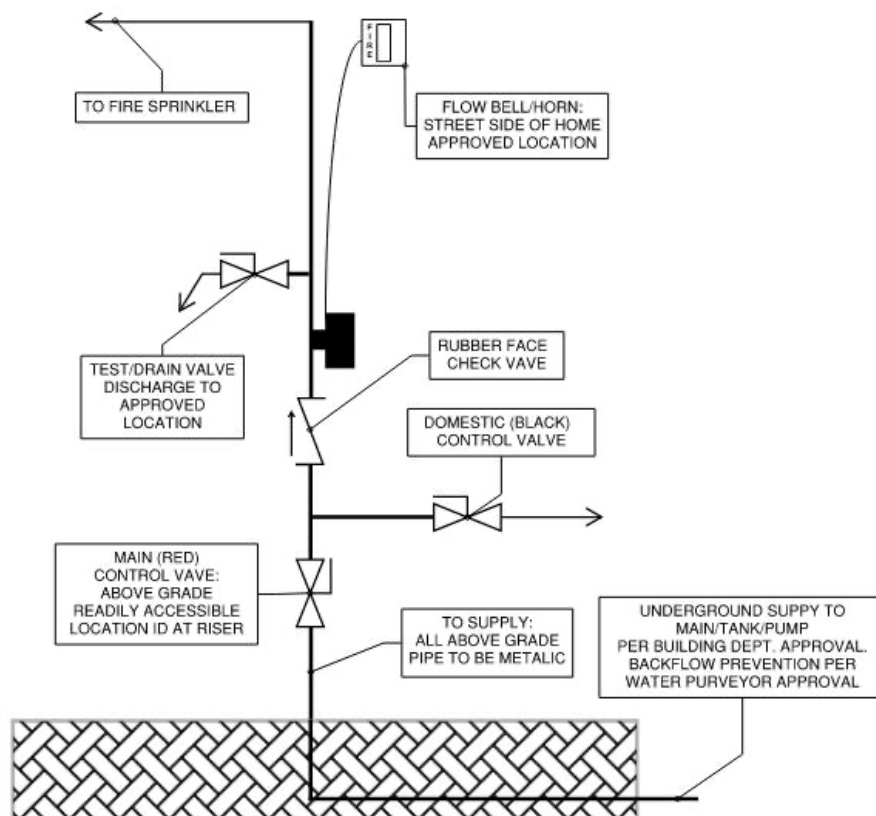

Figure 3
1. Control Valve: Valves controlling the water supply to residential fire sprinkler systems shall be installed in accordance with NFPA 13D. The main control valve shall be distinguishable, readily accessible, and located adjacent to and on the exterior of the structure (Figure 3). The main supply control valve shall be distinguishable from the domestic valve by means of a permanently attached tag and be of a contrasting color (i.e., red handle for main system, versus black handle for the domestic supply).